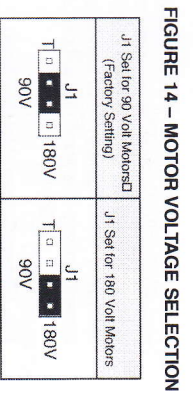

FIGURE 14 – MOTOR VOLTAGE SELECTION
A. Motor Voltage Selection (J1) – Jumper J1 is factory set to "90V" position for 90 Volt SCR rated motors (or 130 Volt PWM rated motors). For 180 Volt SCR rated motors (or 220 Volt PWM rated motors), set Jumper J1 to "180V" position. See Figure 14.